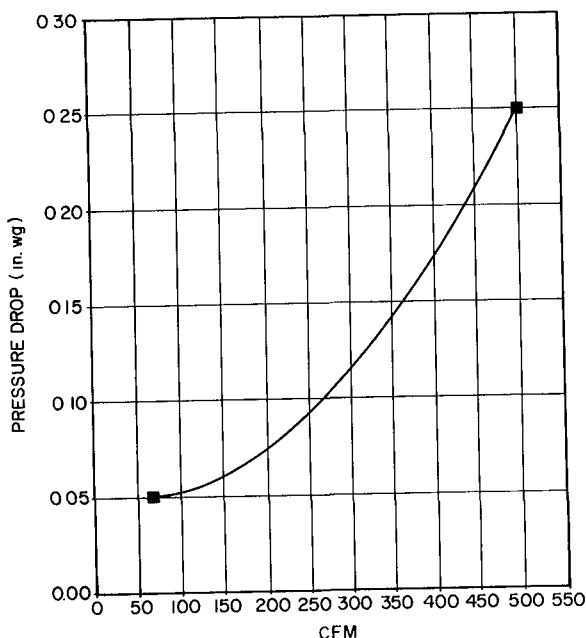

Fig. 21 — Economizer/Two-Position Damper Barometric Relief Damper Characteristics
- NOTE: Refer to Fig. 21 for economizer/two-position damper barometric relief damper characteristics.